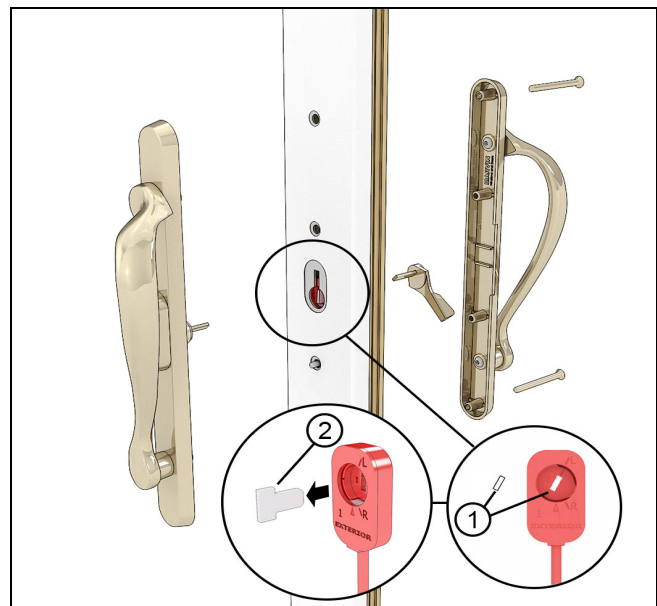

Figure 26
1. When attaching patio door hardware to the panels. Take note of the position of the micro-switch sensor located in the thumb turn area on the panel. The angle of the tail-piece(s) on the hardware and micro-switch should be tilted toward the glass. On keyed handles, remove the extended tail-piece and discard. See Figure 26.